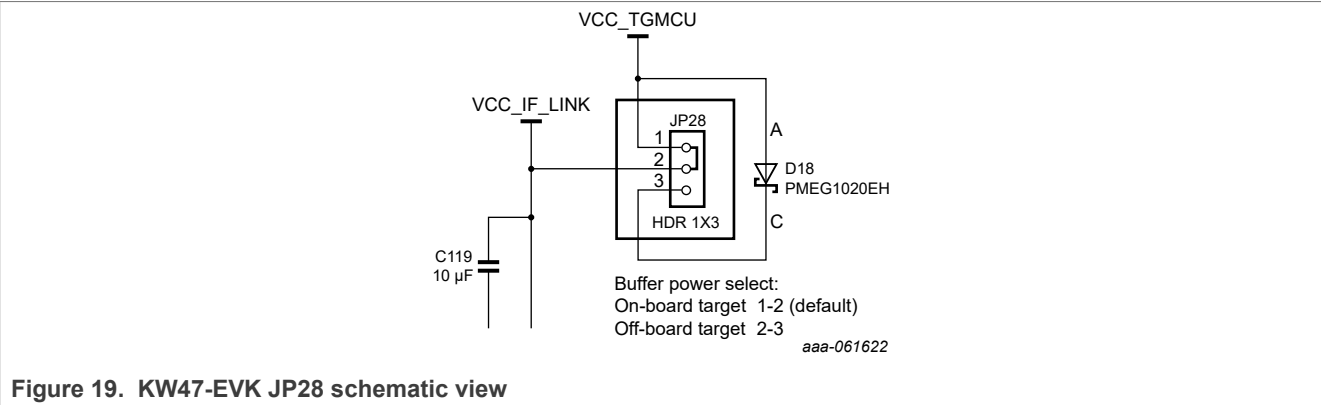

Figure 19. KW47-EVK JP28 schematic view
8. Remove the JP28 jumper and start the application. Refer to Figure 19 for jumper schematic view.